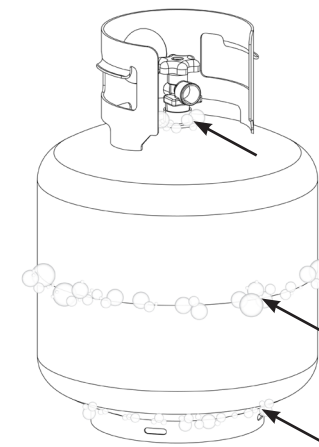

Figure 03
1. Use a clean paintbrush to brush a 10/90 mild soap and water solution onto joint areas of the LPG cylinder (indicated by arrows in Figure 03).